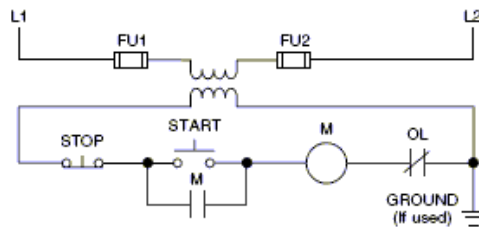

Fig. 21 Fused Control Circuit Transformer
9. Fused Control Circuit Transformer (Fig.21)